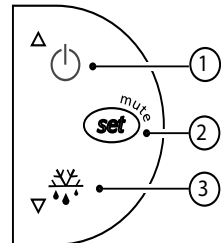

Fig 7-2
7.3 Button Symbols (Fig 7-2)
- ①,: Output ON/OFF if pressed for over 3 seconds.
- ②,: Changes operating values if pressed for 1 second.